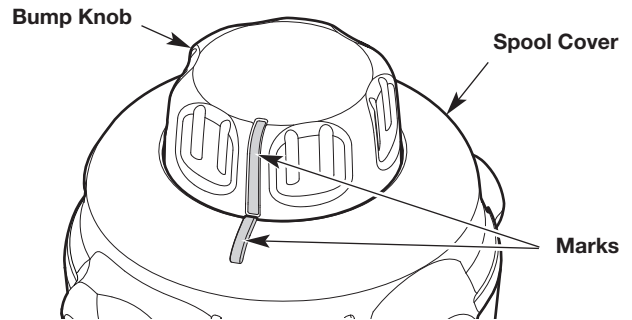

Fig. 18
- Turn the bump knob to align the mark on the bump knob with the mark on the spool cover (Fig. 18).
3. Turn the bump knob to align the mark on the bump knob with the mark on the spool cover (Fig. 18).